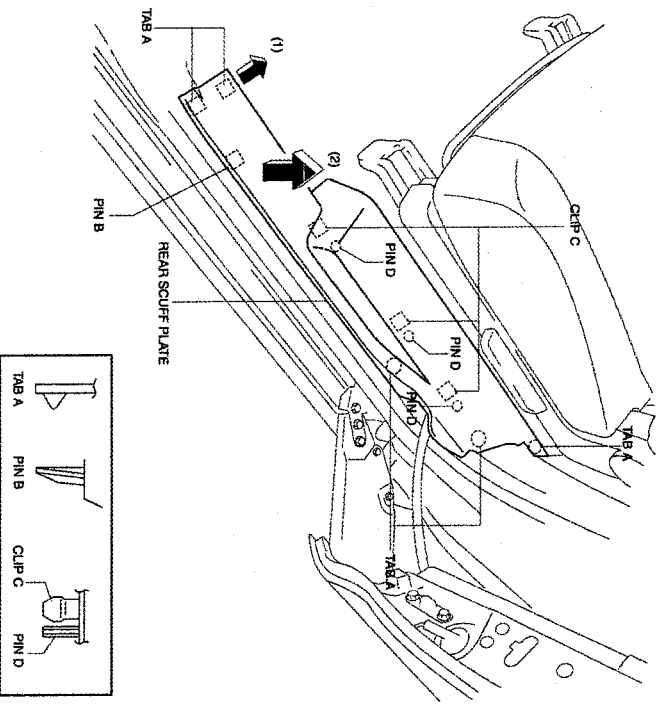

FIGURE 32
- 1.) DETACH TABS A WHILE PULLING THE REAR SCUFF PLATE IN THE DIRECTION OF ARROW (1). DETACH PINS B, CLIPS C, PINS D WHILE PULLING IN THE DIRECTION OF ARROW (2). (SEE FIGURE 32)